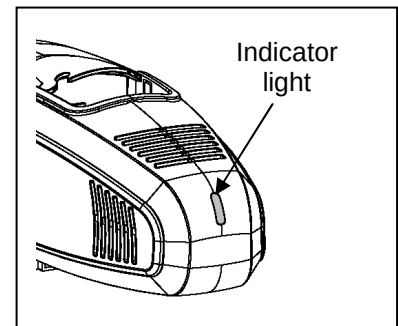

Fig. 5
5. Note the indicator light on the back of the pump. This light indicates whether or not the UV light is on or off. Fig. 5